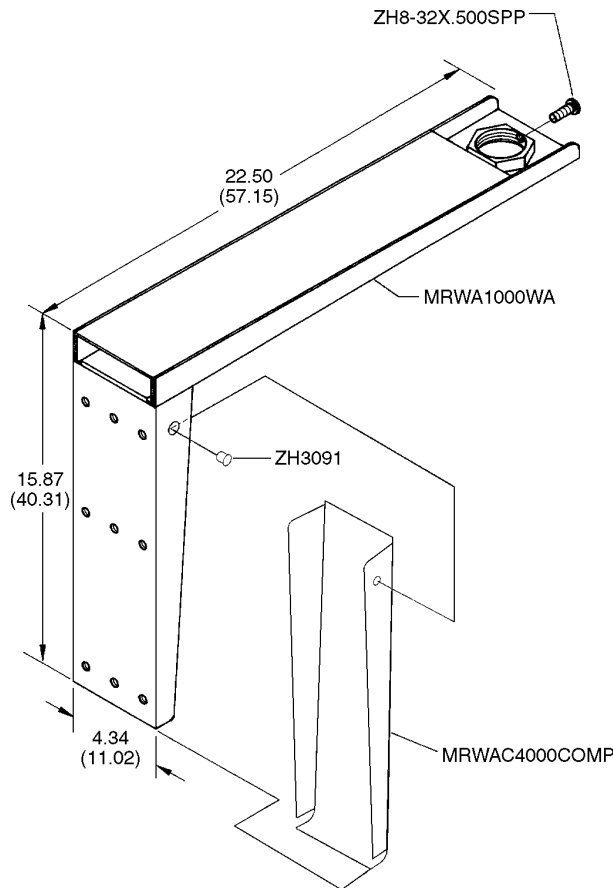

Figure 1. MWRA Dimensions and Exploded Assembly
4. Attach the chosen equipment to the MRWA mount using a suitable length of threaded 1.5-inch NPT pipe. Tighten set screw as shown in Figure 1. Remember to be certain that the mount is properly fastened to a surface adequate to support the total weight of the mount and equipment.
Dimensions:	See Figure 1